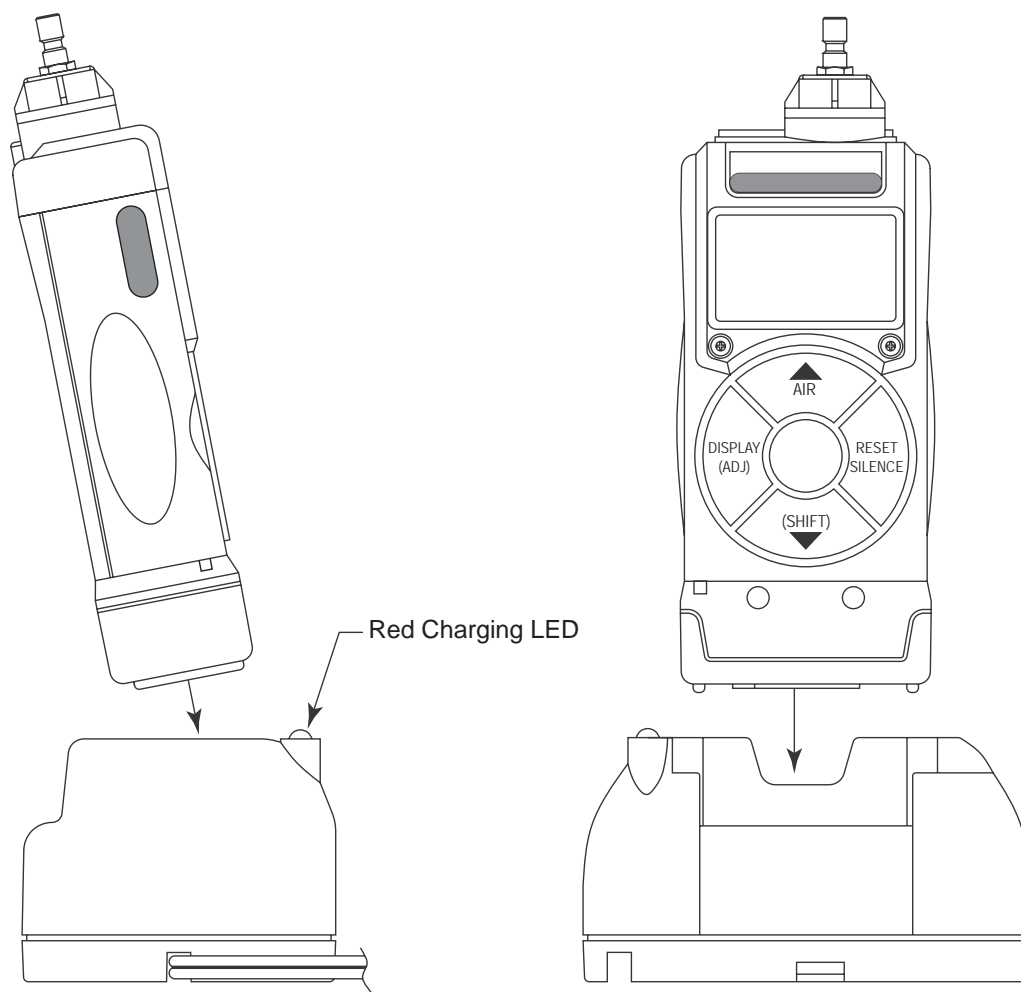

Figure 7: Putting the GX-2003 into the Charging Station
3. Place the GX-2003 into the battery charging station as shown in Figure 7 below so that the metal contacts on the bottom of the unit come into contact with the metal contacts in the bottom of the holder in the charging station. When proper contact has been made, the red LED on the charging station will turn on.